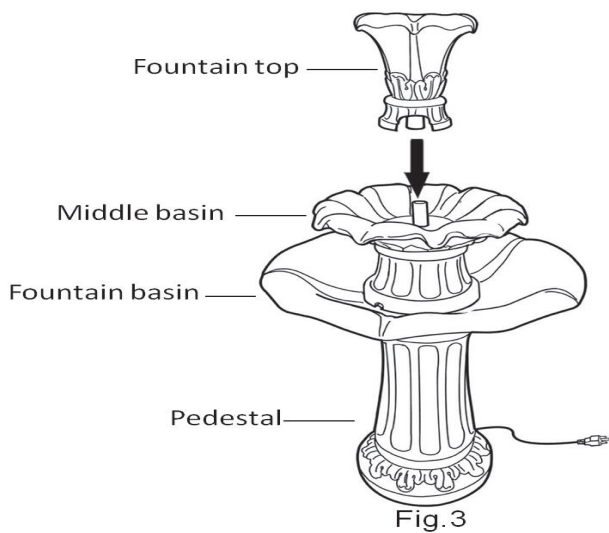

Fig. 3
5. Insert fountain top into the middle basin until the parts are secured together.(Fig.3)